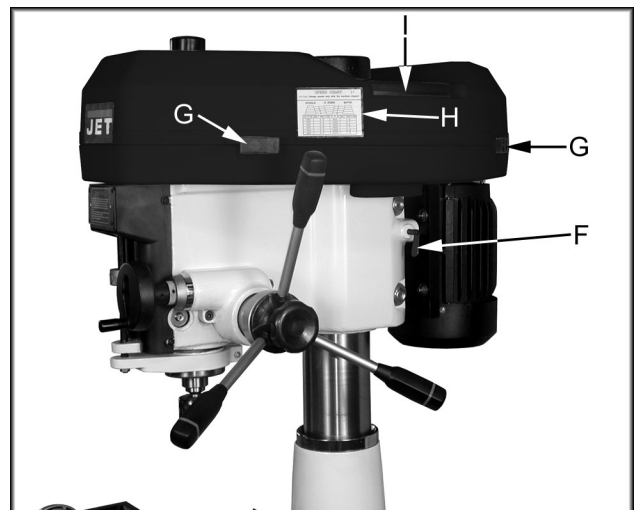
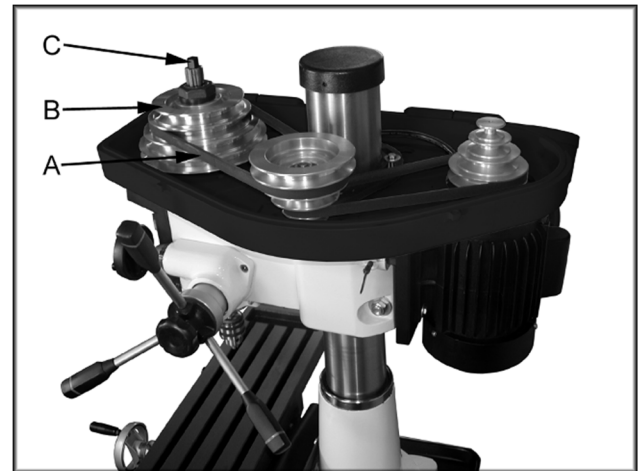

Fig. 11
Fig. 12
2. Loosen the motor mount lock lever (F, Fig. 11) and pull the motor toward the head casting to release tension on the v-belts.
3. Release two latches (G, Fig. 11) on belt cover and slide pulley guard open (I, Fig. 11).
4. Arrange the v-belts (A, Fig. 12) on the pulleys (B, Fig. 12) for the desired speed according to the speed chart (H, Fig. 11) on the belt cover.
5. Tension the v-belts by pushing the motor away from the head casting and locking the motor mount lock lever (F, Fig. 11). **Note:** Proper tension is achieved when the slack in the belt is taken up and the belt does not slip during operation of the mill/drill.
2. Release two latches (G, Fig. 11) on the belt cover and slide the pulley guard open (I, Fig. 11).
3. Hold the spindle pulley (B, Fig. 12) to keep the pulley from moving while loosening the drawbar (C, Fig. 12) with a wrench.